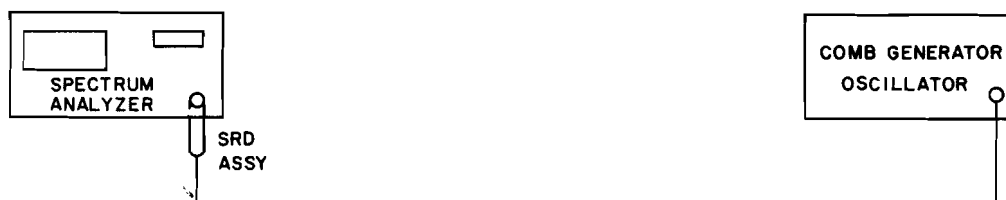

Figure 4-4. Frequency Accuracy with Comb Generator Test Set-Up
3. Connect the comb generator (item 6, Table 4-2) as shown in Figure 4-4.